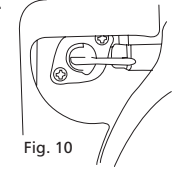

Fig. 10
- Before stopping the engine make sure that all the electrical loads are disconnected from the generator AC outlet socket. When the generator engine has stopped and before storage, turn the fuel cock lever to the OFF position as shown in figure 10.